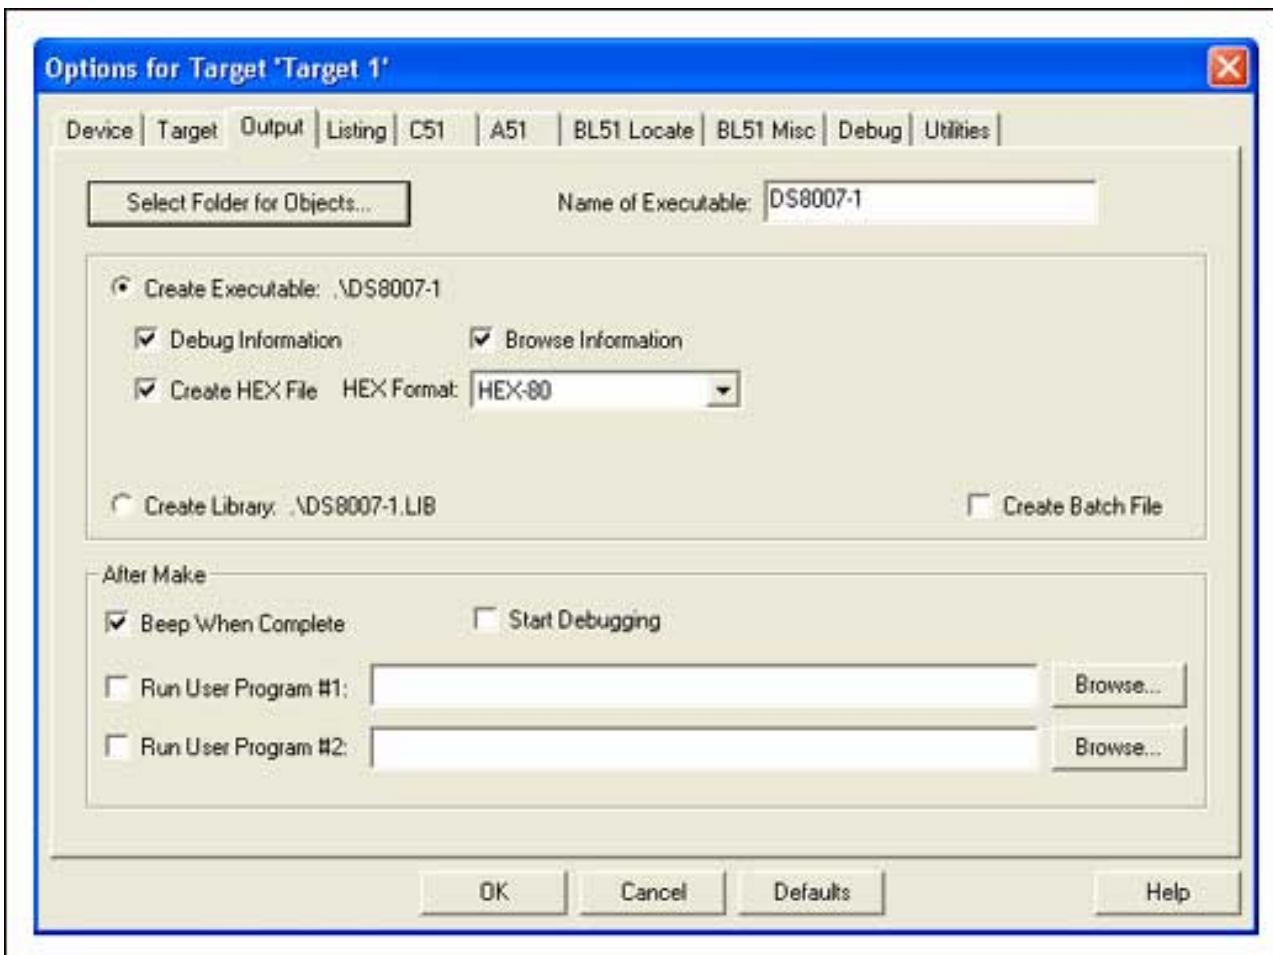

Figure 4. Project options output tab settings.
- On the Output tab, check "Create Executable" (if it is not already), and be sure that the "Create HEX File" box is checked. Select the HEX Format of HEX-80 from the dropdown selector box, as shown in **Figure 4**. All other selections in this window should remain in their default state. Click "OK" to close the Options for Target 'Target 1' window.